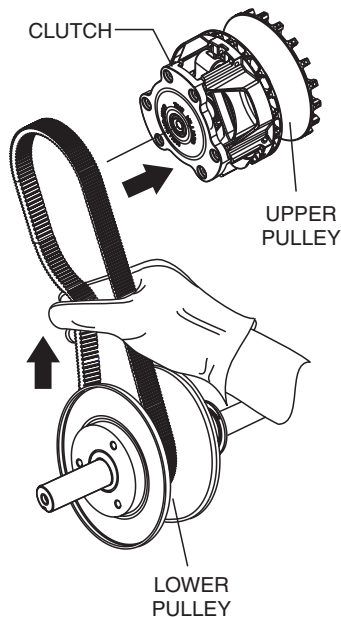

Figure 36. Upper Pulley Belt Installation
2. Place the free end of the CVT belt (Figure 36) into the upper pulley grooves.